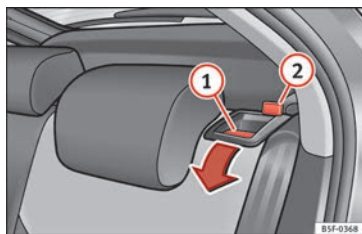

Fig. 150 Backrest release lever.
- Press the release lever » Fig. 150 ① in the direction of the arrow.
- Raise the backrest until it engages in its upright position » ⚠. The red marking on the tab » Fig. 150 ② should no longer be visible when the backrest is properly secured.